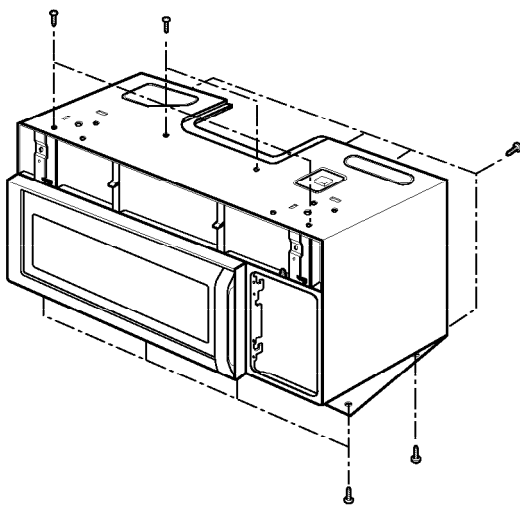

Figure 20
- (4) Remove the base plate by removing six screws securing it to the oven front plate and outcase, remove the outcase by removing nine screws securing it to the oven back plate, air duct, and front bracket. (Figure 20)